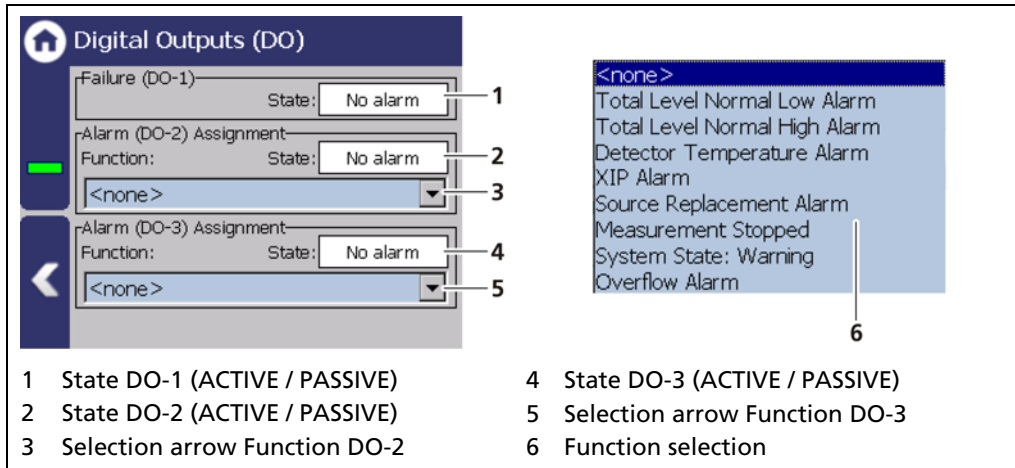

Fig. 101 Digital Outputs
When exceeding or falling below the switching point, an event message appears in the status display. If a digital output "min. level Alarm" or "max. Level Alarm" is assigned under the function (Fig. 101, item 6), the relay alarms.
When the count rate at the GPC detector falls below the switching point, an event message appears in the status display. If a digital output "Overflow Alarm" is assigned under the function (Fig. 101, item 6), the relay alarms. Hysteresis is defined as the tolerance range of the alarm trigger which occurs at a predefined threshold of the process range.